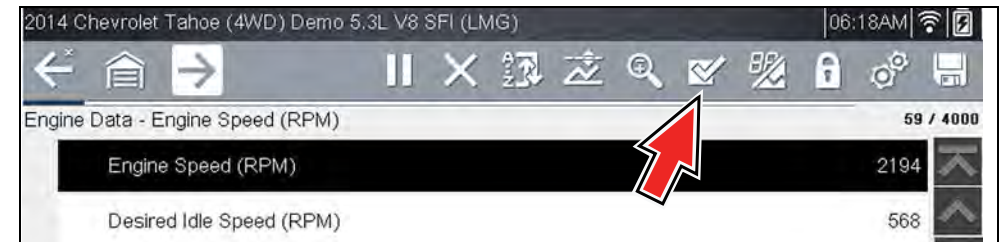

Figure 5-13
1. Select the **Custom Data List** icon on the toolbar (Figure 5-13).